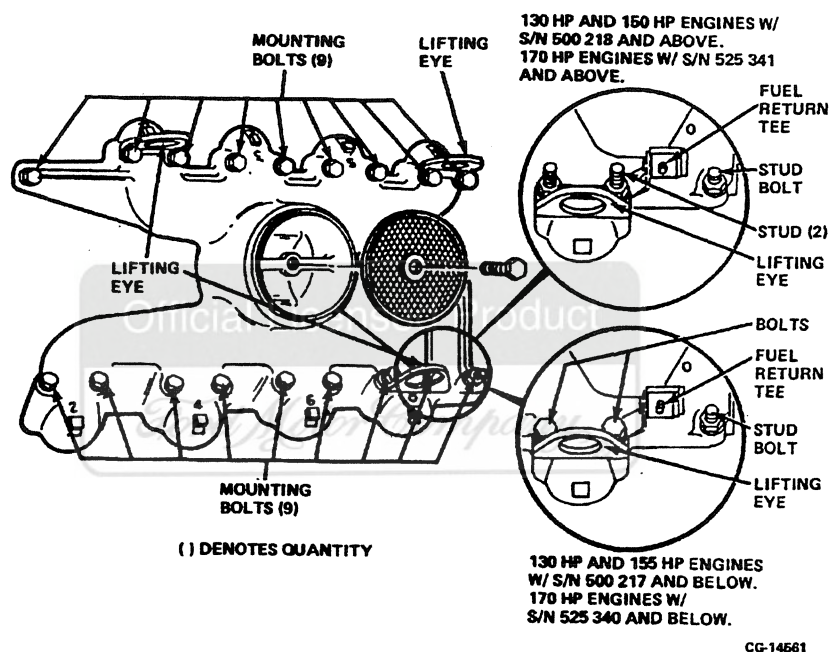

Figure 2.8. Intake Manifold Removal
1. Remove eighteen intake manifold mounting bolts and three lifting eyes, Figure 2.8.
7. Install intake manifold. Install the eighteen intake manifold mounting bolts and three lifting eyes to their original positions. Refer to Figure 2.8 for lifting eye location.